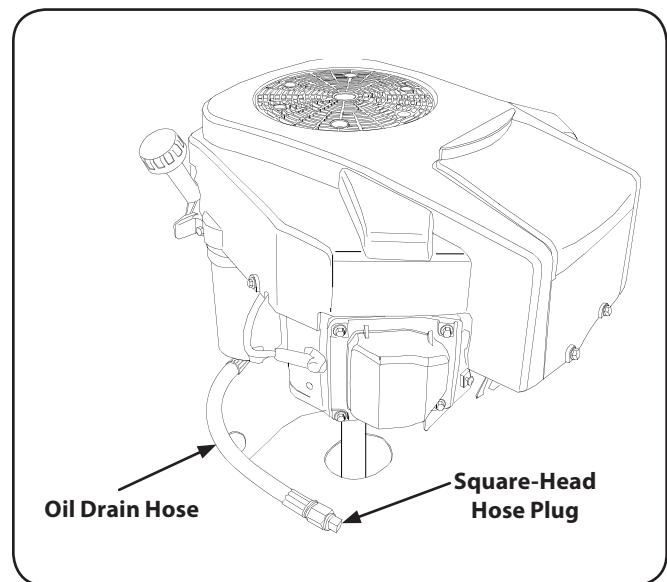

Figure 6-1
4. While holding the free end of the oil drain hose over the oil collection container, unscrew the square head hose plug from the end of the hose. See Fig. 6-1. Drain the engine oil into the collection container.